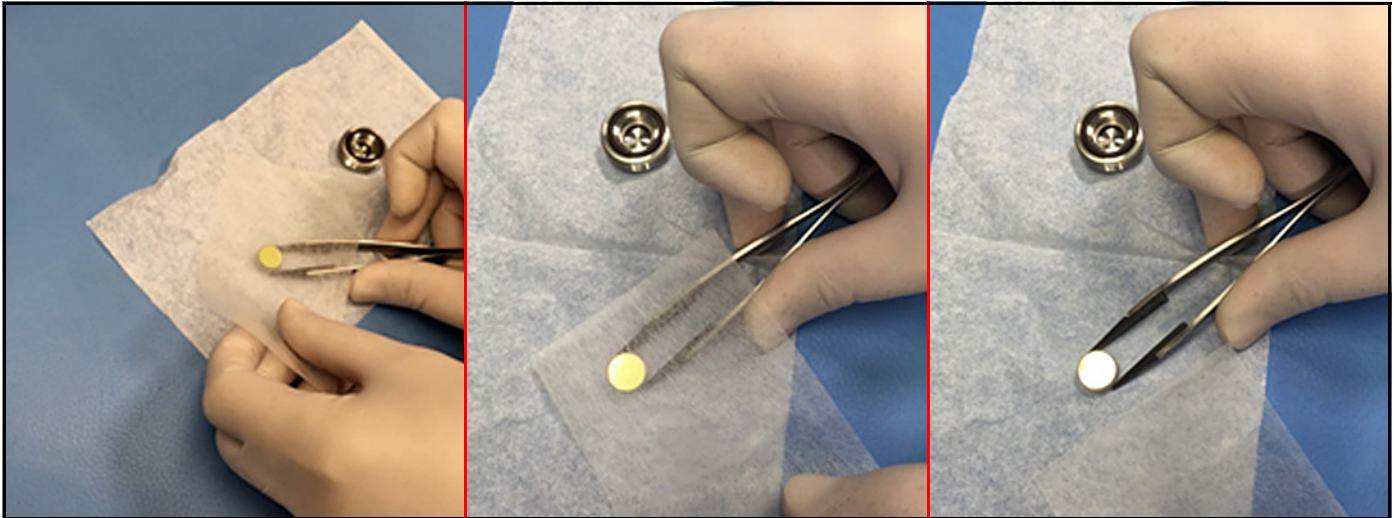

Figure 95: Cleaning a Contaminated Mirror
7. Place the wet lens tissue on top of the mirror and drag it horizontally across the surface of the mirror, while holding it on with a pair of plastic-tipped tweezers (see *Figure 95* below). Ensure that minimal liquid residue or streaks are left behind on the mirror surface.